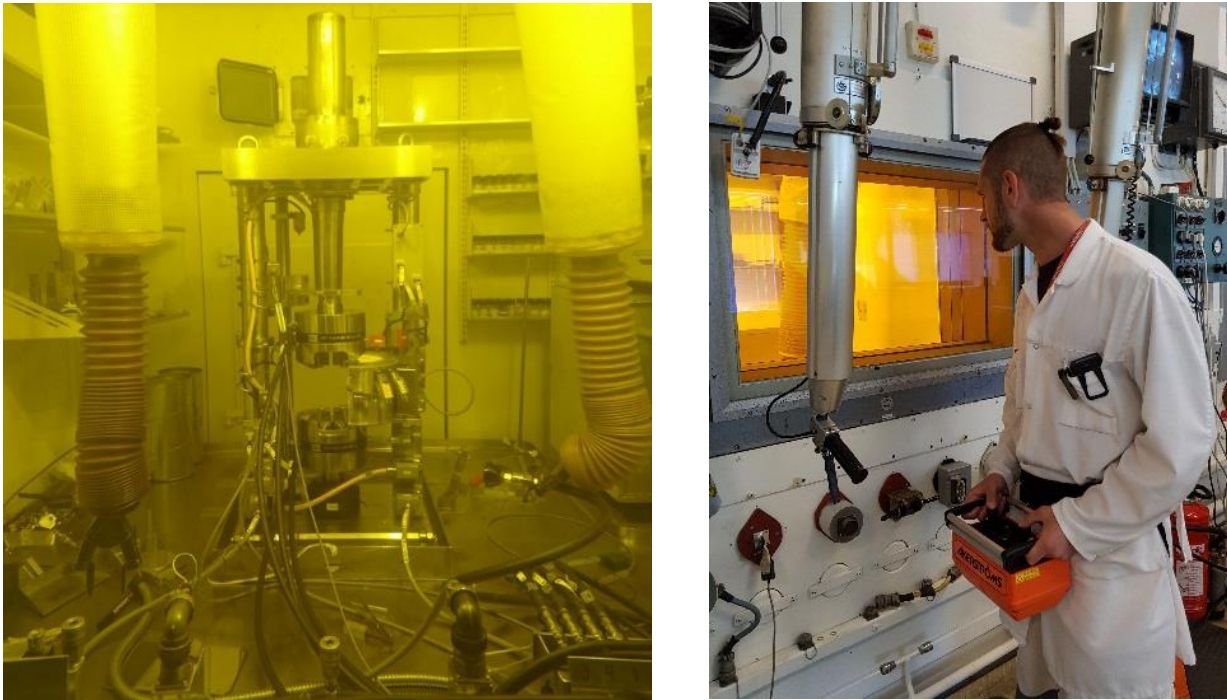

Figure 64: In cell 120 kN tensile tester (left) and industrial remote control of the power manipulator.
To move larger equipment such as fuel assemblies, transport cast insets, full-length fuel rods or bulky machinery through the big cells a PAR M3000 power manipulator (PM) can be used. Originally it was fitted with a joystick control box on wheels. The control box connects with wires to the control cabinet of the PM. The operator must move from cell window to cell window to observe the motion of the PM and rolling along with the joystick control was not easy with all cabling and the rather bulky size of the joystick control. To facilitate the surveillance the joystick control was exchanged to an industrial remote control (Åkerströms M300J), see Figure 64. Operator safety was also improved as the emergency stop function via the remote control complies with the latest standards and the risk of stumbling over wires is excluded.
The Studsvik fabricated in-cell tensile testing machine see Figure 64, is fully mechanical and loads the specimens by means of a motor and a gear. The specimen under test is held in place by hydraulic grips. Although the load cell has a capacity of 150 kN the maximum load capacity is constraint by the grips and therefore only up to 120 kN. An Instron 8800 controller is used for load control while a Eurotherm controller is used for split-tube furnace surrounding the specimen under test. The furnace can reach operational temperatures of up to 1000 °C. The machine makes it possible to do tensile tests on reactor internal materials under typical in-reactor temperatures.